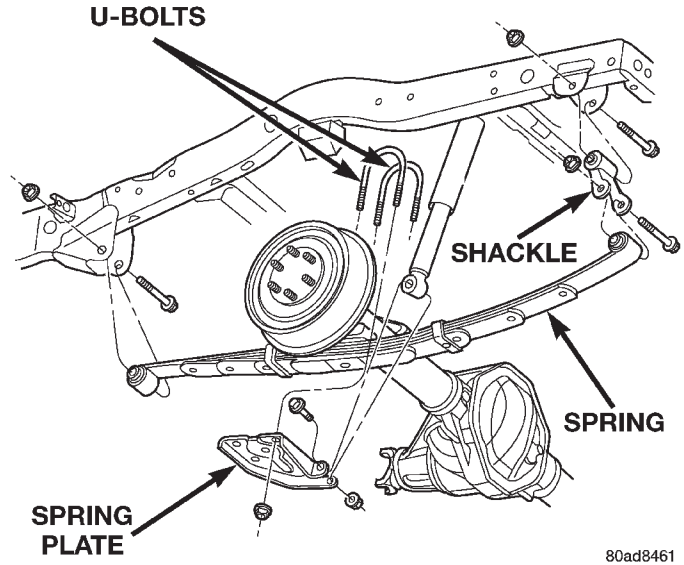

Fig. 4 Leaf Spring
- (1) Raise the vehicle at the frame.
- (2) Support the axle to relieve the weight of the axle from the springs.
- (3) Remove the wheel and tire assemblies.
- (4) Remove shocks from the spring plates.
- (5) Remove the nuts, the U-bolts and spring plate from the axle (Fig. 4).
- (6) Remove the nut and bolt from the front spring eye.
- (7) Remove the nut and bolt from the rear spring eye.
- (8) Remove the spring from the vehicle.
- (9) Remove the shackle from the frame bracket.